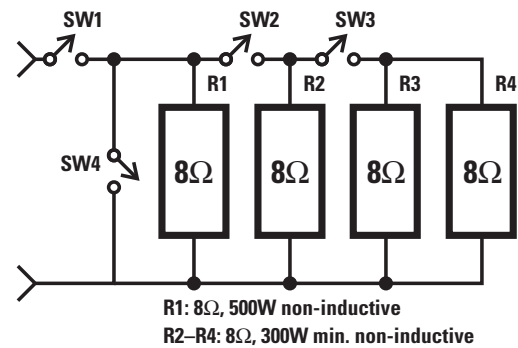

Figure 1.2. Load resistor bank
- Non-inductive load resistors, configurable as 8 ohms (min. 500 watts capacity), as 4 ohms (min. 750 watts capacity), and 2 ohms (min. 1200 watts capacity); see Figure 1.2 and Table 1.1.